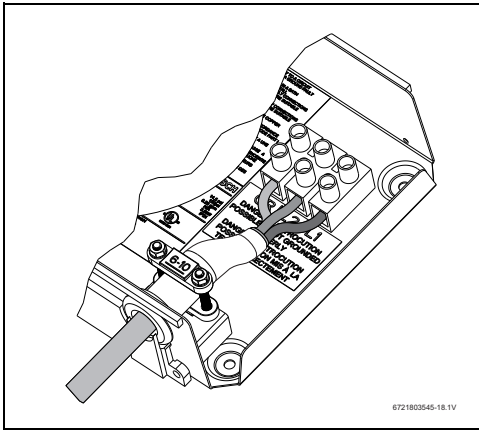

Fig. 10
- ▶ Connect the cables to the terminal block (Fig. 10): insulation needs to be through the end of the grommet to provide a good seal.